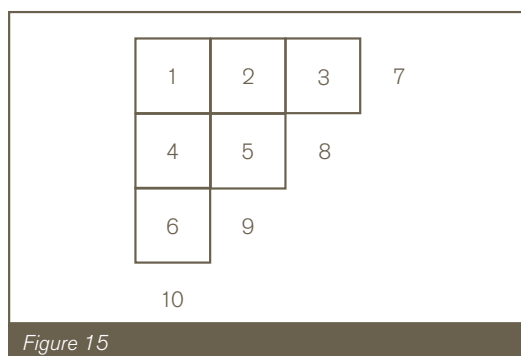

Figure 15
4.5 Complete Each Grid (see *Figure 15*).